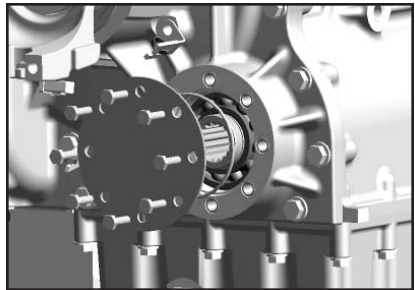

Fig. 22
3. Remove the O-Ring and clean the aperture surface. (**Fig. 22**)